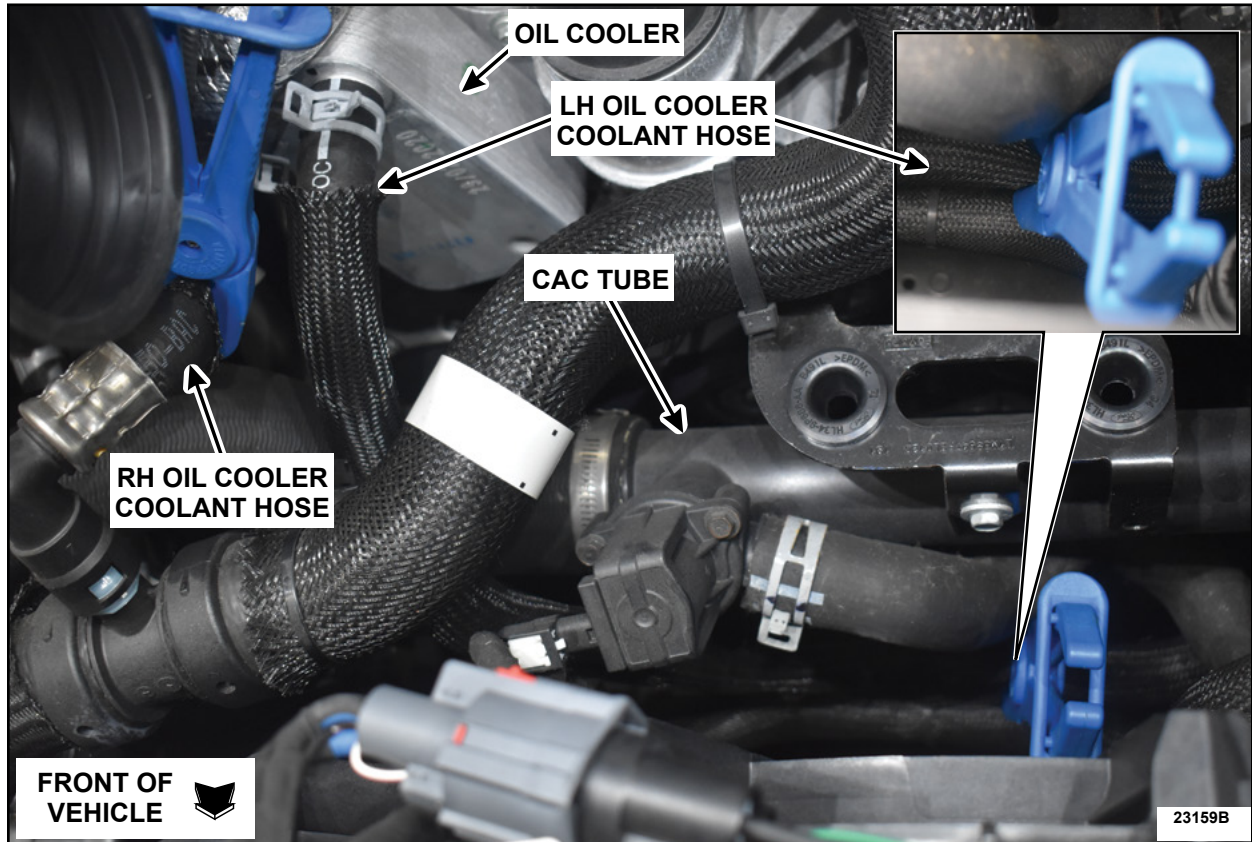

FIGURE 10
16. Remove the hose locking pliers. See Figure 10.